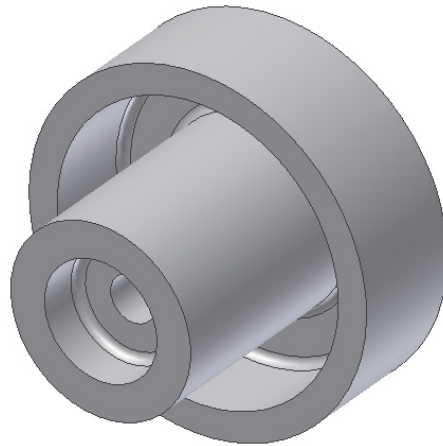
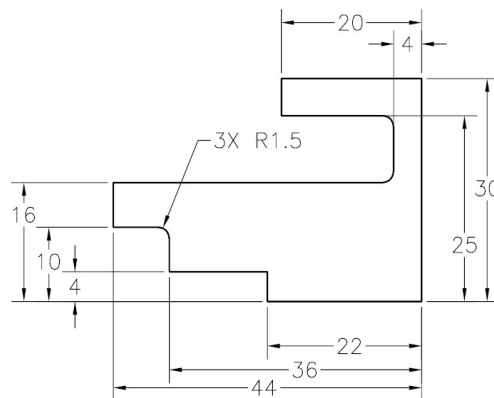

Figure 2-75 Revolved model for Tutorial 4
Figure 2-76 Sketch for the revolved model
In this tutorial, you will draw the basic sketch of the revolved solid model shown in Figure 2-75. The sketch for creating this model is shown in Figure 2-76. Do not dimension the sketch as the dimensions are given only for reference. Use Dynamic Input to draw the feature. **(Expected time: 30 min)** The following steps are required to complete this tutorial:
2. Select the line 8 and then line 9, refer to Figure 2-76; a fillet is created between these lines and the radius of the fillet is displayed in the sketch.